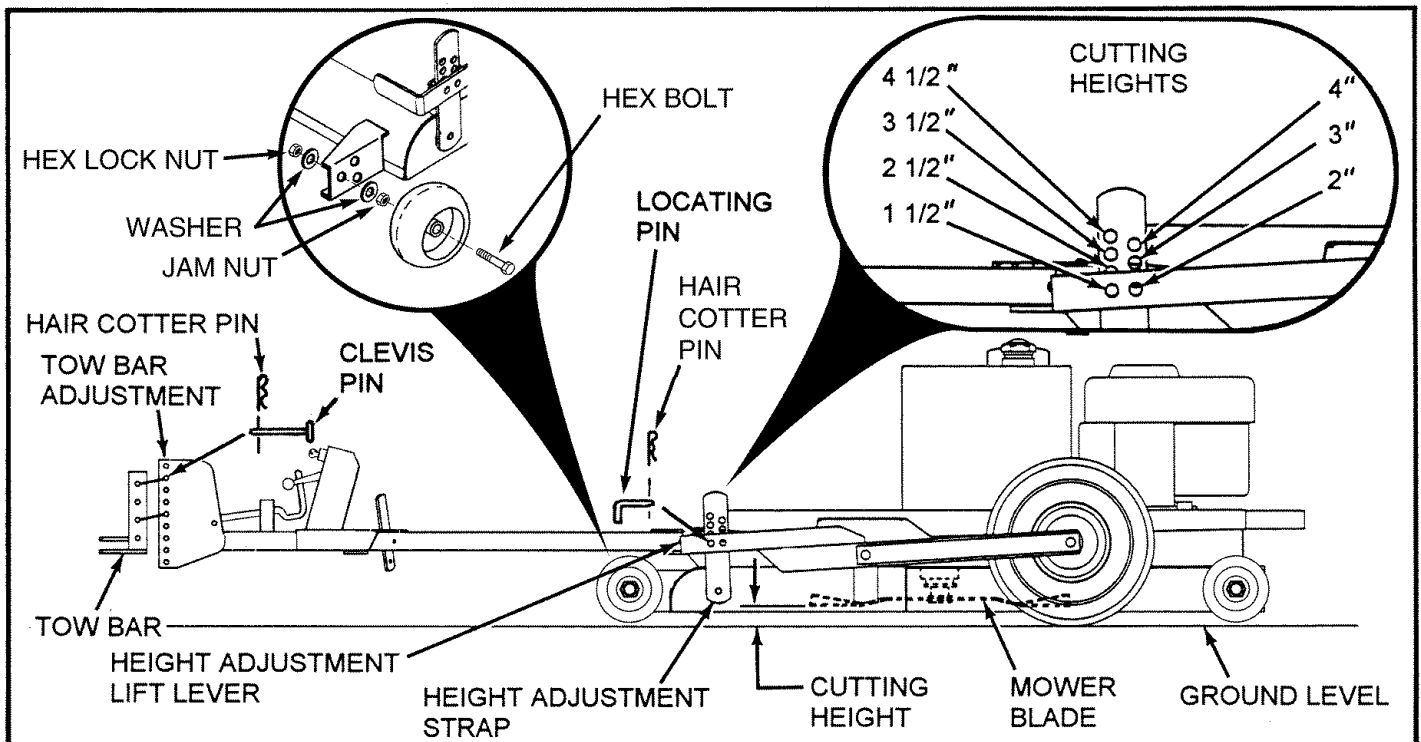

FIG. 6
- Remove hair cotter pin from locating pin. (See Fig. 6)
- Remove two hair cotter pins from two clevis pins in the tow bar adjustment. (See Fig. 6)